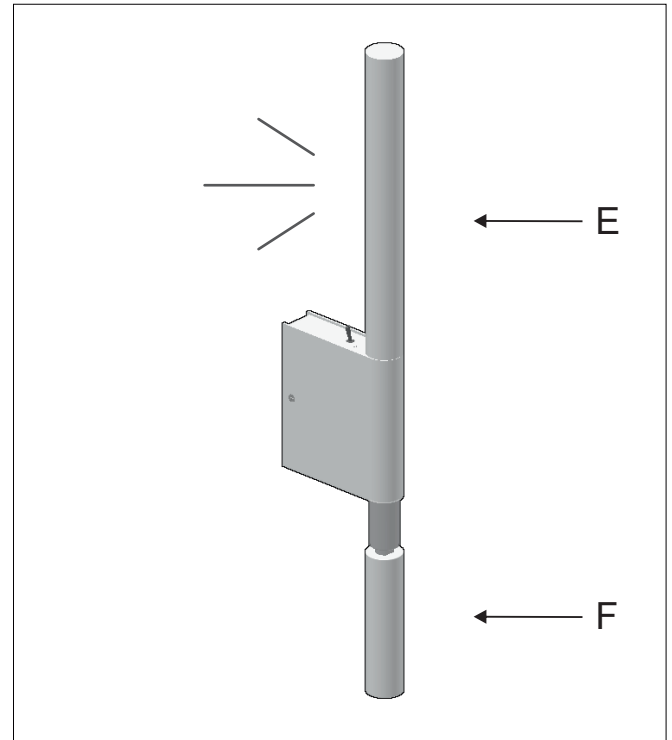

Figure 3A
The light spots are controlled independently by two circuits. The wall switch controls the ambient light (E) and the switch controls reading arm (F). Figure 3A.